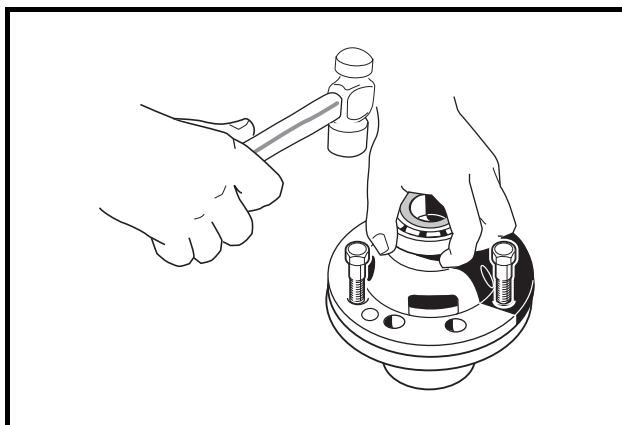

Figure 17a-14 Separate Housing
- 8.4. Remove the differential pin (31) by pushing pin through differential gear case from one side (**Figure 17a-5, Page 17a-3**). See also **Figure 17a-15, Page 17a-9**.